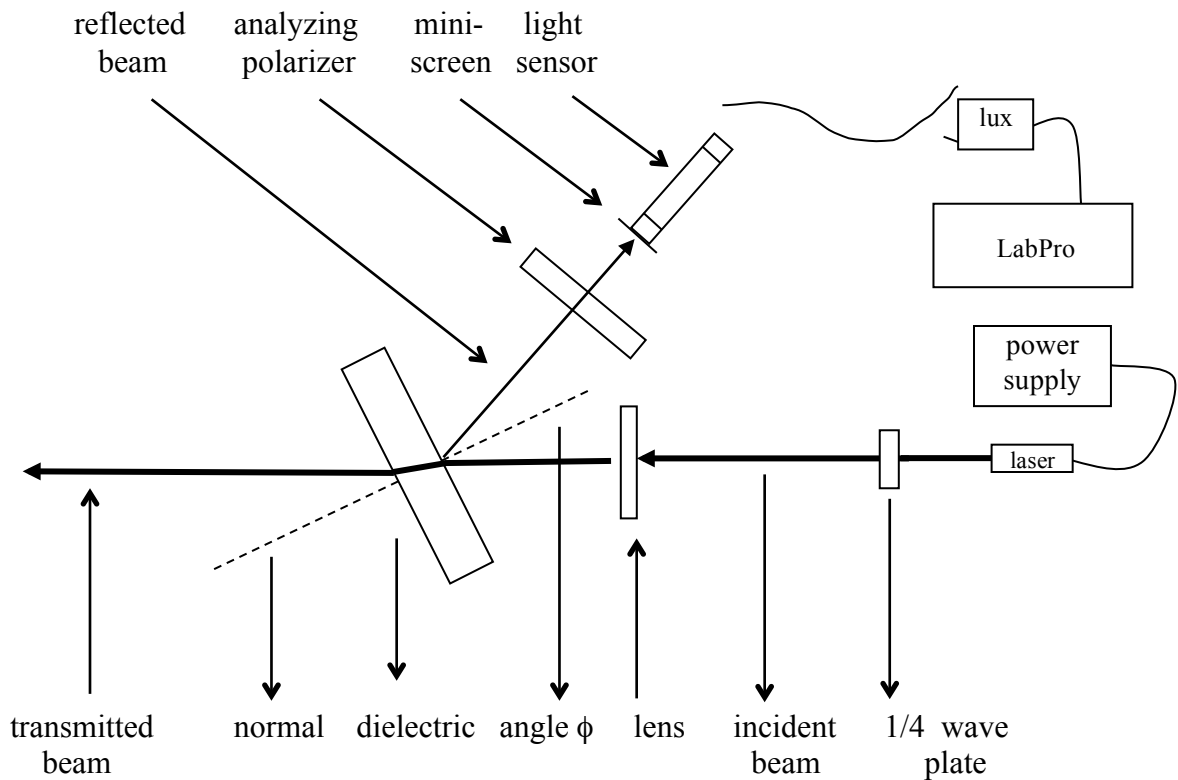

Fig. VI.6 Sketch of Brewster's Angle Experiment
2. Arrange the Brewster's angle apparatus on the optical bench as shown in the Figure VI.6 and VI.7 above. The dielectric plate must be in place.